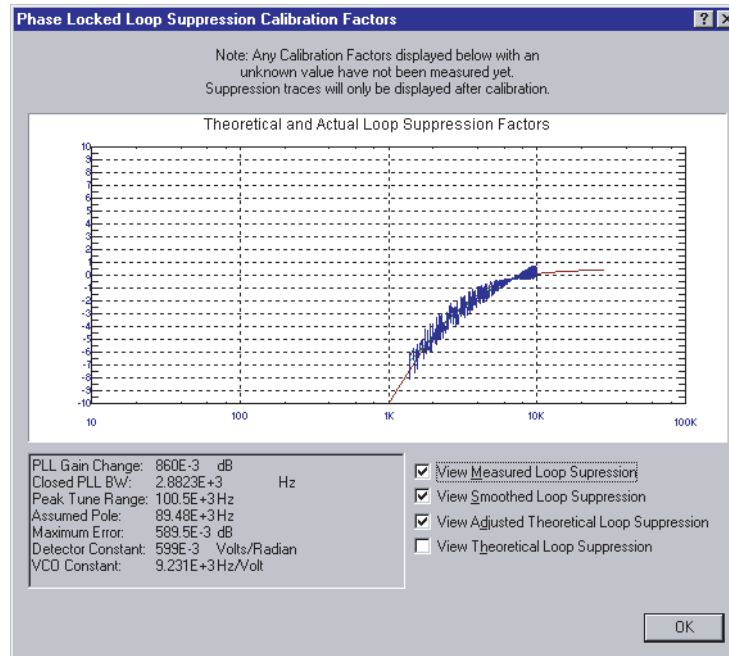

Figure 107 Selecting suppressions
- 2 When the PLL Suppression Curve dialog box appears, select **View Measured Loop Suppression**, **View Smoothed Loop Suppression**, and **View Adjusted Loop Suppression**. See Figure 107 on page 156.